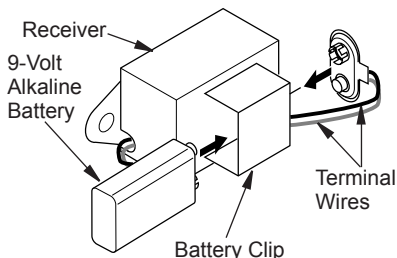

Figure 34 - Attaching Alkaline Battery to Receiver
3. Attach terminal wires to battery (see Figure 34).